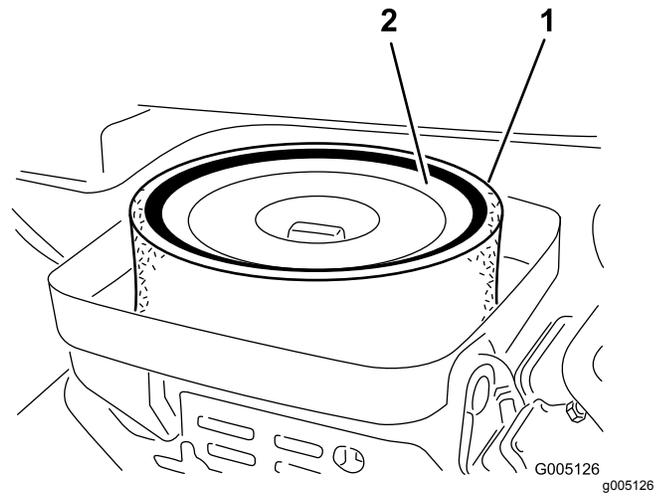

Figure 37
3. Remove the wing nut securing the elements to the air-cleaner body (Figure 37).
4. If the foam element is dirty, remove it from the paper element (Figure 37). Clean it thoroughly, as follows: